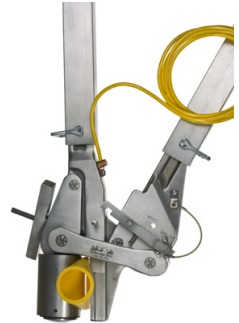

Fig 11
12. To control the rate of release, turn the **Slow Release Nut** counter clockwise at a rate of 10 rotations per minute according to ASTM Standards for release rate of 1/2" per minute. (Fig 11)